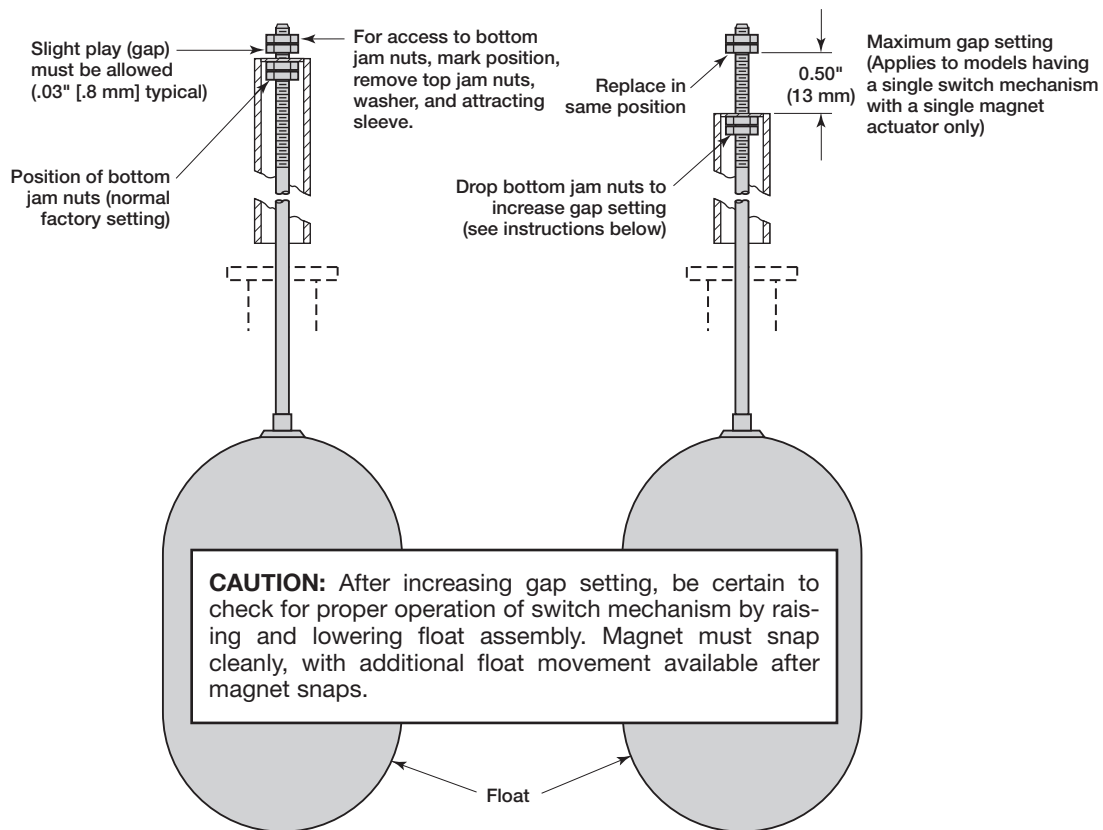

Figure 6
The differential, or the amount of level travel between switch-on and switch-off, may be adjusted by repositioning the lower jam nuts on the float stem. The standard factory setting is for a minimum amount of play (gap) between the top jam nuts and the attraction sleeve as shown in Figure 6.
NOTE: The amount of level travel between switch-on and switch-off actuation (differential) may be field adjusted by repositioning the lower jam nuts on the float stem. The standard factory setting is for a minimum amount of play (gap) between the top jam nuts and the attraction sleeve, as shown in Figure 6. This setting may be increased to a maximum of 0.50" (13 mm), as shown in Figure 7.
5. If differential has been changed in the field by repositioning the lower jam nuts on the float stem, check tightness and position of the jam nuts. Refer to Figure 6.